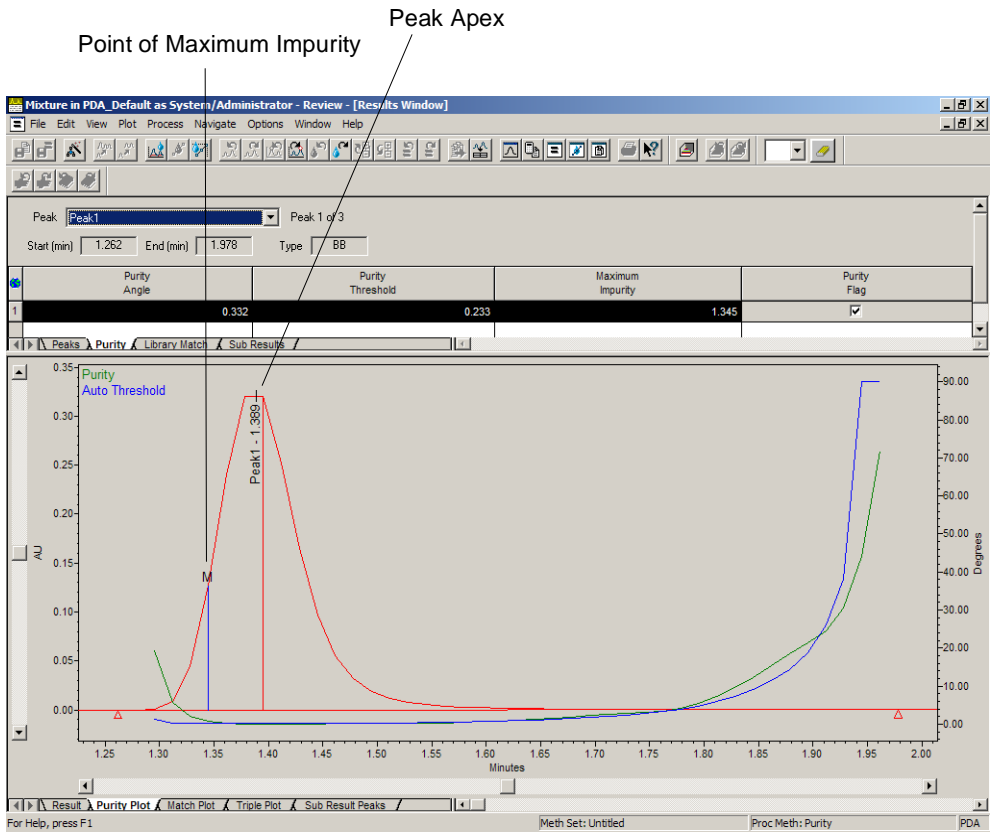

Figure 3-31 Purity Plot with Maximum Impurity Indicator
6. In the Purity tab, select the **Annotate Peak Apex/Max. Impurity** check box, then click **OK**. The point of maximum impurity appears in the Purity plot and is marked with an "M" (Figure 3-31). The peak apex is marked with a vertical line drawn from the apex of the peak perpendicular to the baseline.